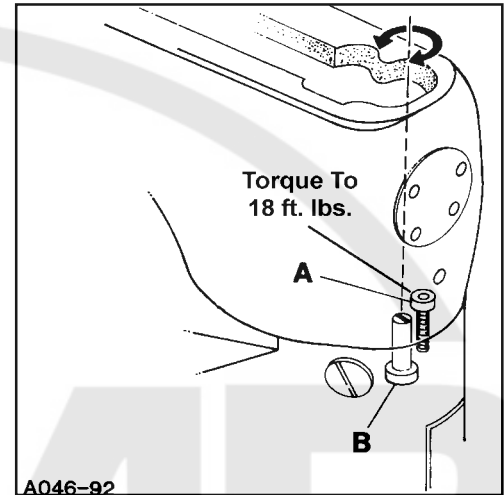

FIG. 5
Remove the top front cover and gasket from the main frame. Loosen cylinder holding screw (A, Fig. 5). Turn eccentric screw (B) clockwise or counterclockwise to move the cylinder so the needles are centered in the needle holes. Tighten screw (A) and recheck settings.